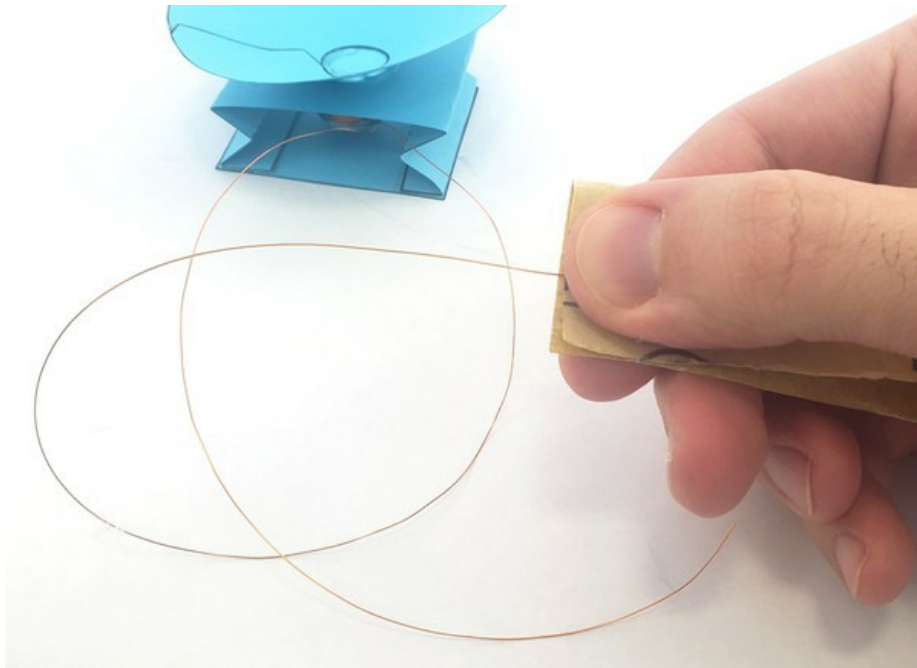

Figure 16. Magnet wire being stripped with a piece of sandpaper.
15) Use sandpaper to strip the insulation from about 1 cm of each end of the wire. Fold the sandpaper in half, pinch the wire between the sides of the sandpaper with your fingers, and pull along the wire (Figure 16).